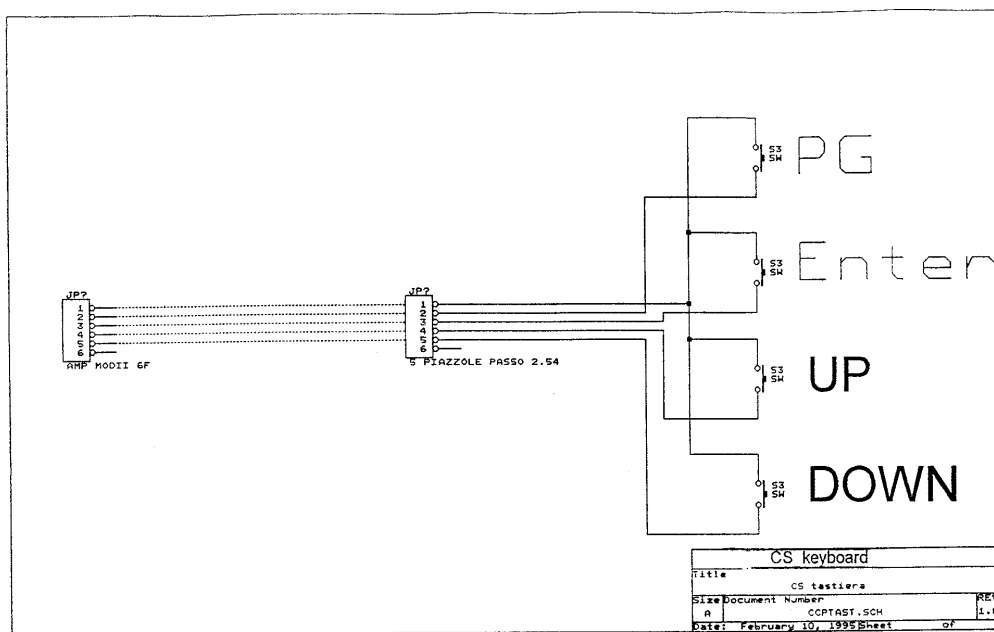

FIG. 1
4. Adjust the OFFSET voltage on Pin 6 of U6 (Fig.6, Fig.8) on the CPU board with the trimmer R1 (Fig. 1, Fig.8) of the preamplifier board to - 10mV. Protect the optical sensor from any light by inserting a black cuvette (one of your fingers will do the same) into the reading position.